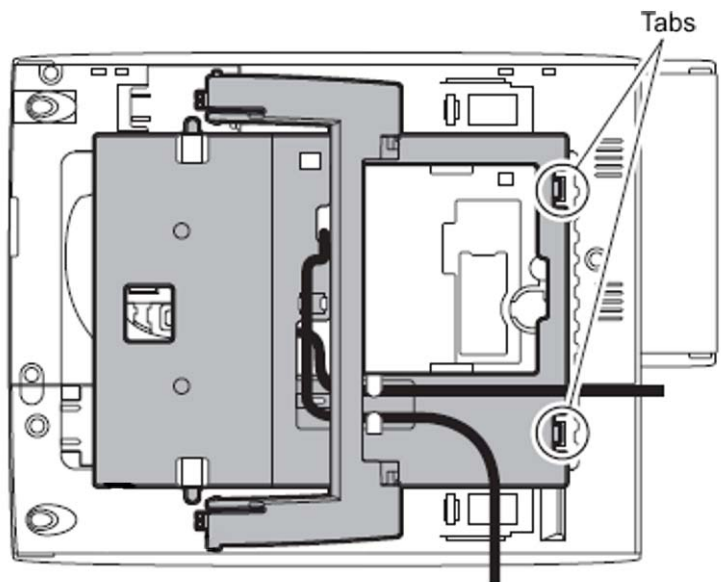

Figure 6-53 Pass Cabling Through Bracket
10. Pass the LAN and DC power cables through the bracket (refer to Figure 6-53 Pass Cabling Through Bracket).